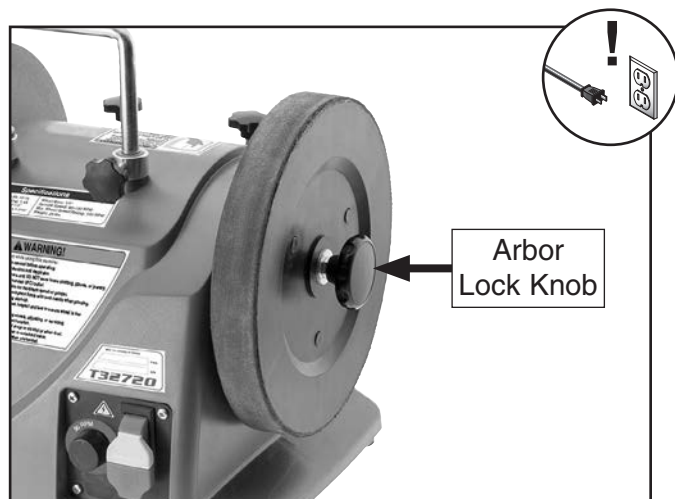

Figure 27. Location of arbor lock knob.
2. Remove arbor lock knob (see **Figure 27**).